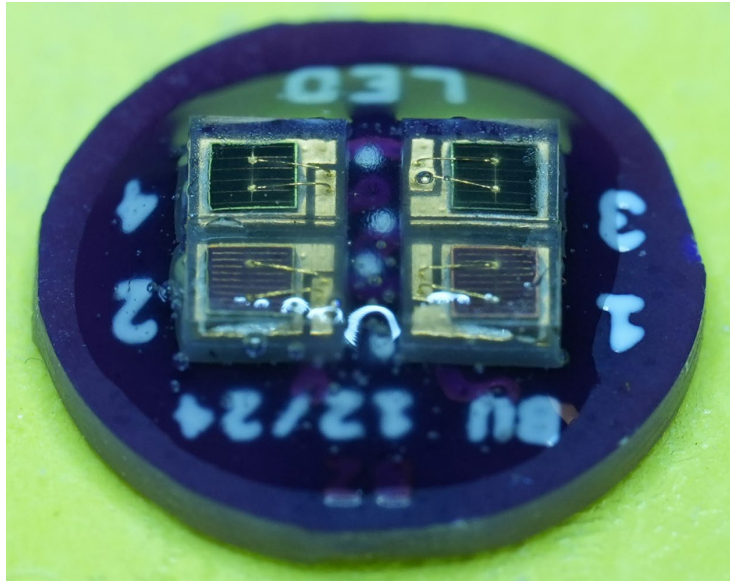

Figure 2.1: Blob of epoxy on PCB.
- Place a blob of transparent epoxy (M-31CL) on the PCB, with the PCB lying on a flat and horizontal surface. A toothpick or similar can be used to push the glue around the LEDs and into all gaps. (see Figure 2.1)